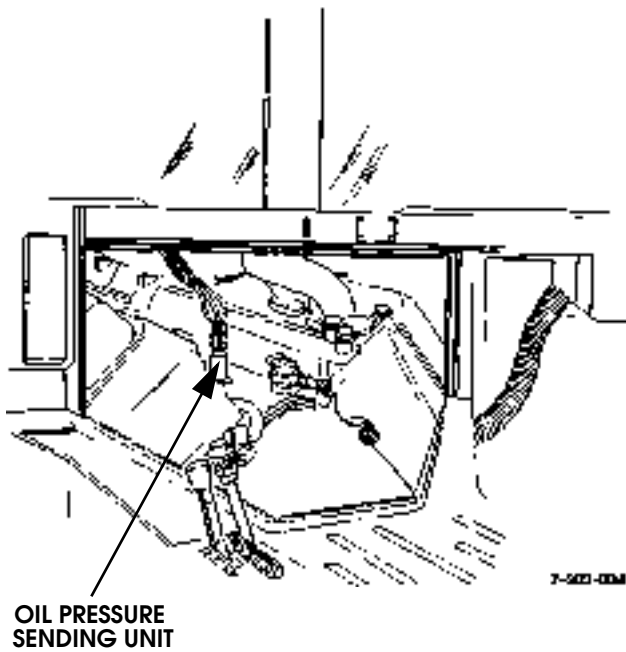

Figure 2-91: Oil Pressure Sending Unit Location
3. Unplug electrical connector and remove oil pressure sending unit from engine valley (Figure 2-91).